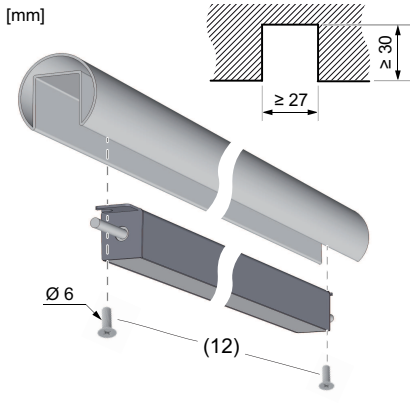

Figure 2: Mounting the luminaire
- In the mounting base material (e.g. handrail), prepare a groove according to drawing (Figure 2).
- Fasten lights inserts with stainless steel screws (12) in the groove (Figure 2).